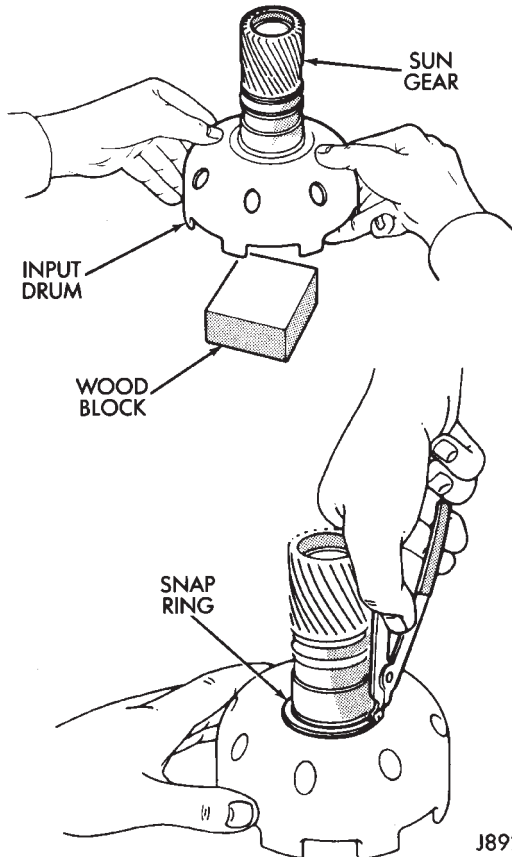

Fig. 264 Removing/Installing Sun Gear
(5) Support sun gear on wood block (Fig. 264). Then remove first sun gear snap ring and separate drum from gear.